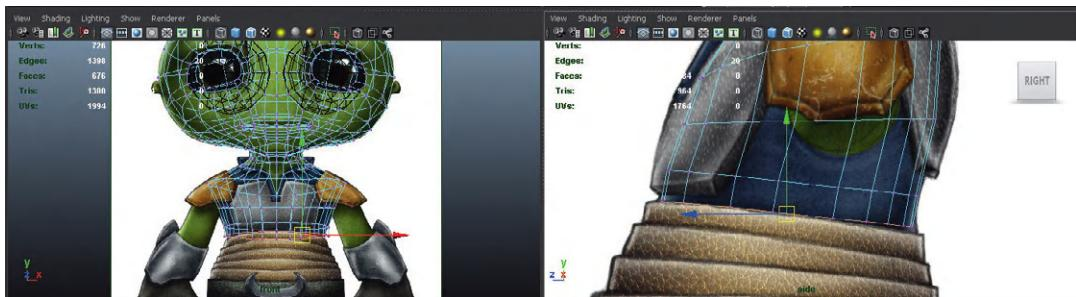

FIG 4.52 Roughing out the torso shape.
Step 70: Extrude the bottom edge of the form down to rough out the top of the torso (Fig. 4.52). This is done with three extrusions that go down to the top of the belt. Notice that the rough shape goes out to where the arms connect to the torso, but do not include the arms themselves.